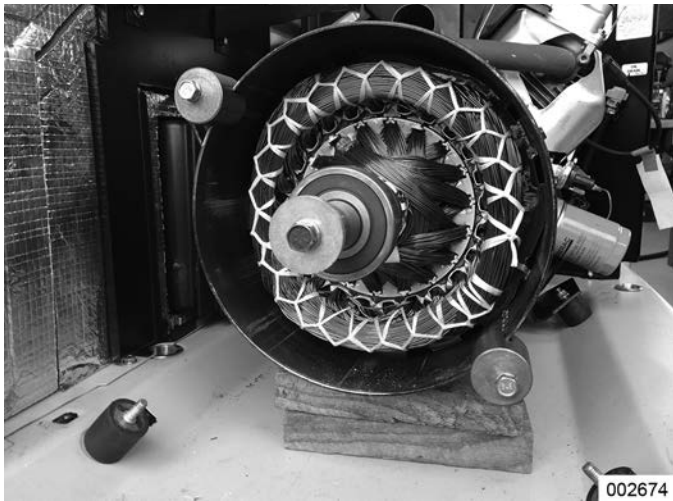

Figure 6-41.
21. **Rotor Removal Protection:** See Figure 6-41. Insert the rotor protector sheet (PN 0K8210) between the rotor and stator assemblies.